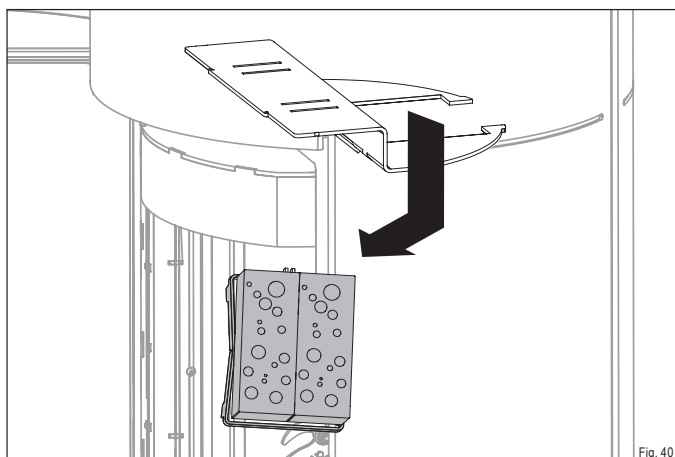

Fig. 40
- ▶ Remove the catalytic combustor unit through the opening (Fig. 40).